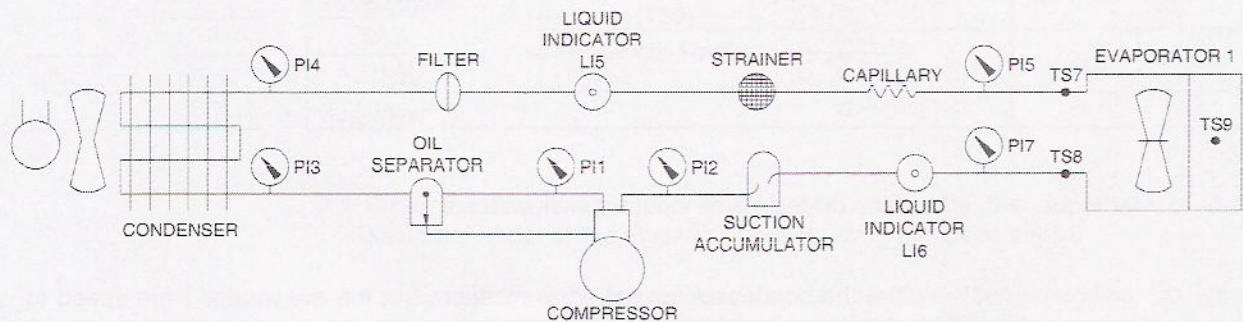

Figure 4-11. Refrigeration system with capillary tube control.
The schematic diagram as shown in Figure 4-11 is a typical refrigeration system using a capillary tube as the metering device. Pressure and temperature sensing points are located on the schematic to indicate where measurements should be taken.
1. Open and close the manual valves to arrange the refrigeration system as shown in Figure 4-11. Figure A-3 in Appendix A may be used to assist in the proper set-up of the system.
All pressure and temperature test point locations are indicated on the diagrams in Figure 4-11 and Figure A-3.